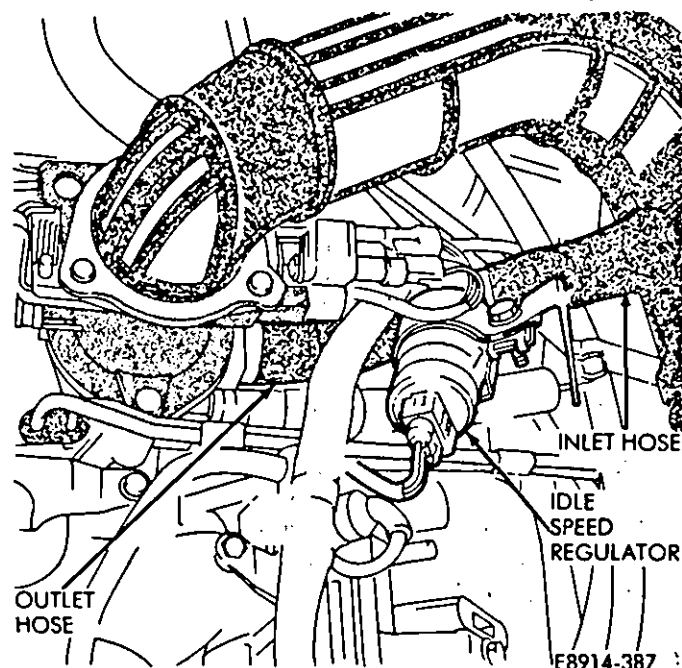

Fig. 3—Idle Speed Regulator Removal/Installation
- (1) Remove regulator electrical connector (Fig. 3).
- (2) Remove air inlet hose (Fig. 3).
- (3) Disconnect regulator outlet hose at the regulator (Fig. 3).
- (4) Remove regulator clamp bolt (Fig. 3).
- (5) Remove regulator (Fig. 3).
- (1) Install the regulator with the arrow (cast into the ports) pointing towards the throttle body adapter.
- (2) Secure clamp with bolt (Fig. 3).
- (3) Attach air inlet hose and outlet hoses to regulator.
- (4) Connect electrical connector to regulator.